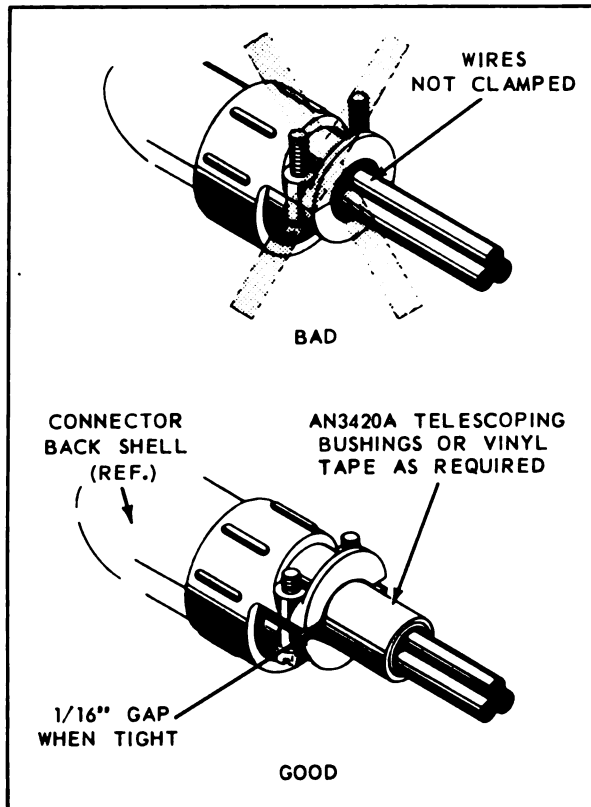

Figure 3-42. Installation of MS3057 Clamp
3-53. **INSTALLATION OF MS3057 CABLE CLAMP.** The MS3057 cable clamp is installed as follows: (See figure 3-42).
f. Attach saddle with both screws and tighten until 1/16 inch space is left between saddle and body as shown in figure 3-42. AN3420A bushing, if used, should bulge slightly when saddle is tight.